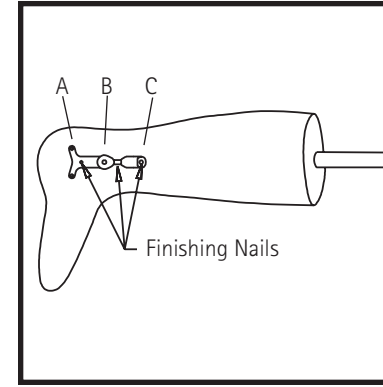

Figure 1b
4. If an "Alignment Rod" is not used, locate the holes in the ankle joint assembly as shown in Figure 1b and place small finishing nails in the cast at these locations. If an "Alignment Rod" is used; the finishing nails are only needed in holes "A" and "C".